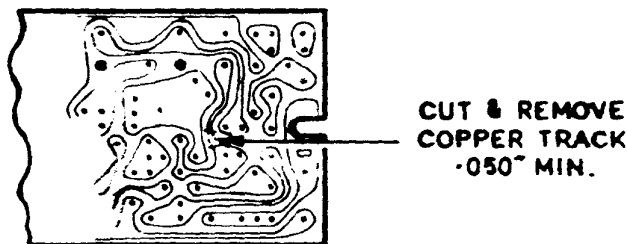

Figure 3-8 Underside Copper Track Cut-away
- (1) Remove Exciter Card U2 from honeycomb.
- (2) Cut copper track between junction R2/C9 and L15 pin 4 as shown in figure 3-8.